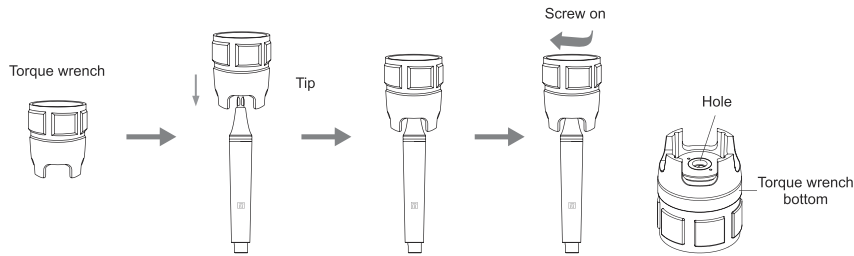

Figure 5 Instruction of using the wrench to install tip
- 2) Choose proper scaling tip as requirement. (Refer to Attachment) Install the tip with the torque wrench. (Figure 5)